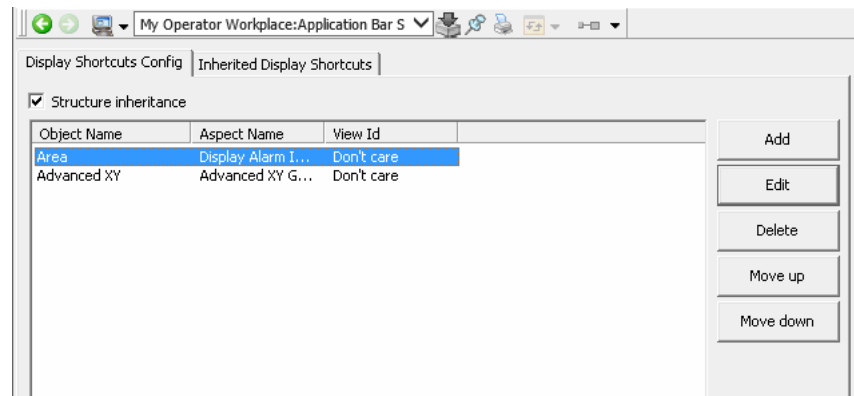

Figure 26. Dialog Box for Edit of Application Bar Shortcut
- 2. Open the configuration view and click **Add**. See Figure 26.